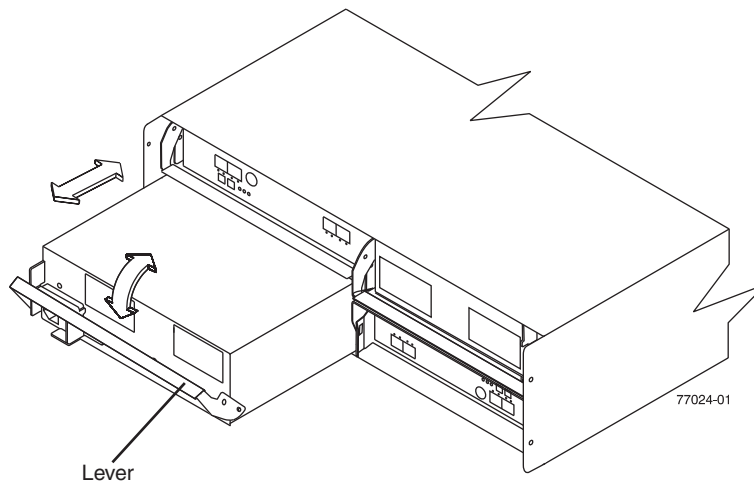

Figure 54. Replacing a power supply and fan unit
Use the following procedure to replace an ac power supply and fan unit. Figure 54 on page 108 illustrates removing and inserting a unit.
11. Slowly pull the lever away from the chassis to remove the power supply and fan unit, as shown in Figure 54 on page 108.
Use the following procedure to replace a dc power supply and fan unit. Figure 54 on page 108 illustrates removing and inserting a unit.